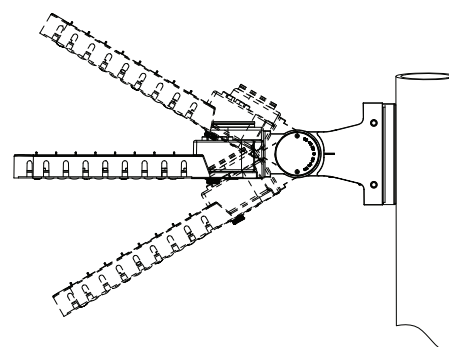

FIG. 6
4. To aim the fixture, loosen the M12x40 center knuckle bolt on the arm, adjust the aim 0 to 60° both upward and downward (see **FIG. 6**)